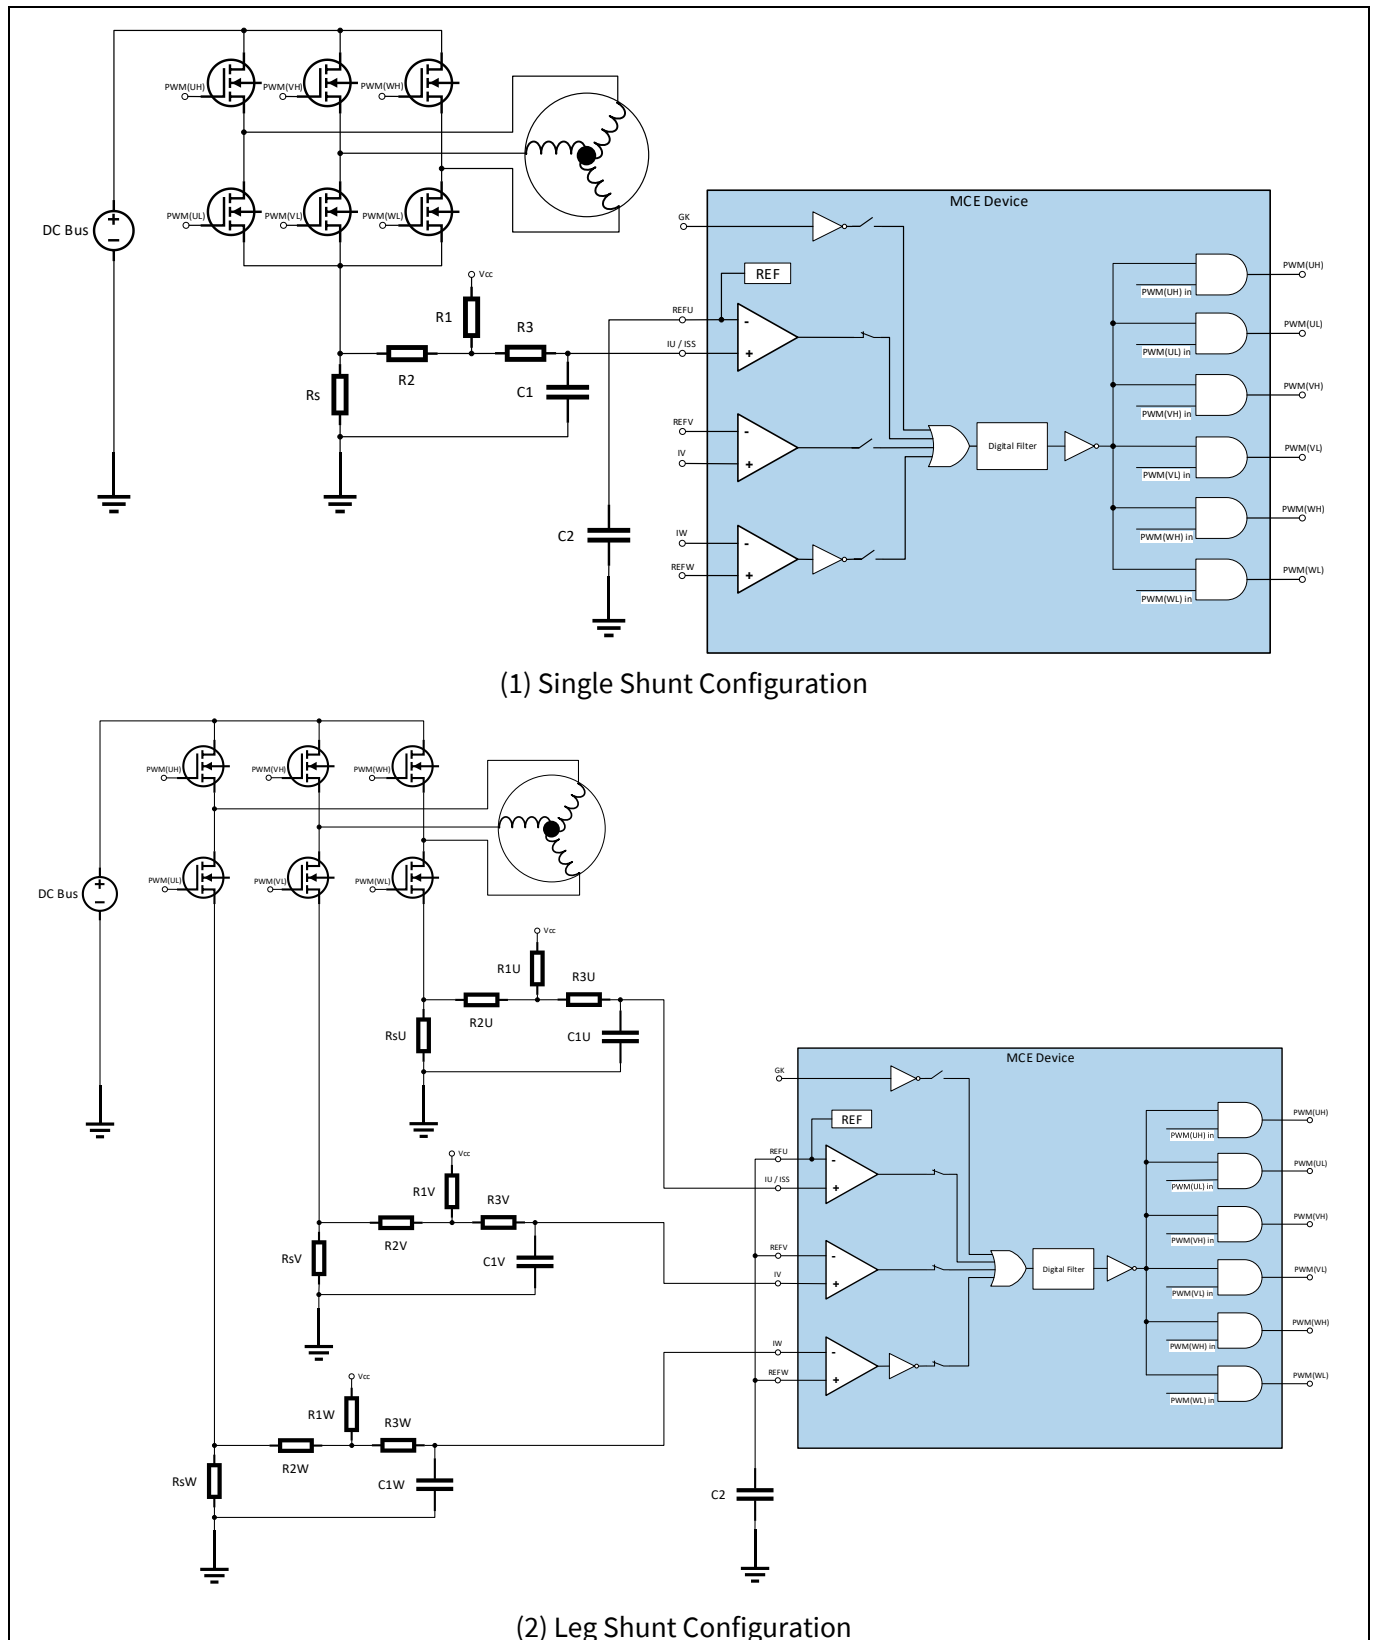

Figure 49 Typical Motor OCP Implementation Using Internal Comparators
User can select using either the dedicated GK pin or the internal comparators to realize the over-current protection function. In the case of using the GK pin, it is configured to be active LOW. In the case of using the internal comparators, the exact tripping voltage level can be specified by setting the 'CompRef' motor parameter. The current tripping level for the internal comparator can be configured using MCEWizard, the 'CompRef' parameter holds the current trip level value. As shown in Figure 49 (1), for single shunt current
measurement configuration, only one internal comparator is used. For leg shunt current measurement configuration, three internal comparators are used to detect over current condition as shown in Figure 49 (2).